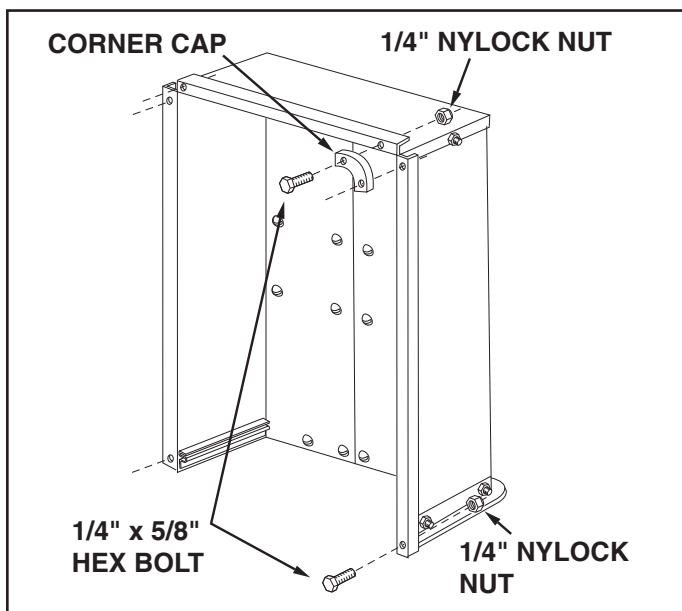

FIGURE 7
- Assemble the two corner caps to the front corners of the cart using four 1/4" x 5/8" hex bolts and 1/4" nylock nuts. **TIGHTEN.** See figure 7.
- Assemble two 1/4" x 5/8" hex bolts and 1/4" nylock nuts to the two rear corners of the cart. **TIGHTEN.** See figure 7.